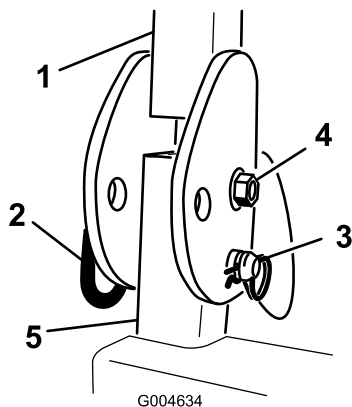

Figure 4
1. Remove the hairpin cotter pins and remove the two pins from the roll bar (Figure 4).